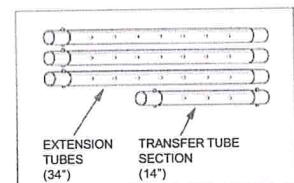

Figure 6
- A. Button to button, each Extension Tube Section extends a total of 4' 8", and the Transfer Tube Section extends 15 1/2", allowing the Junior Power Stretcher to extend a total of 22' 7" with the AutoLok Tube fully extended. (See figure 6)